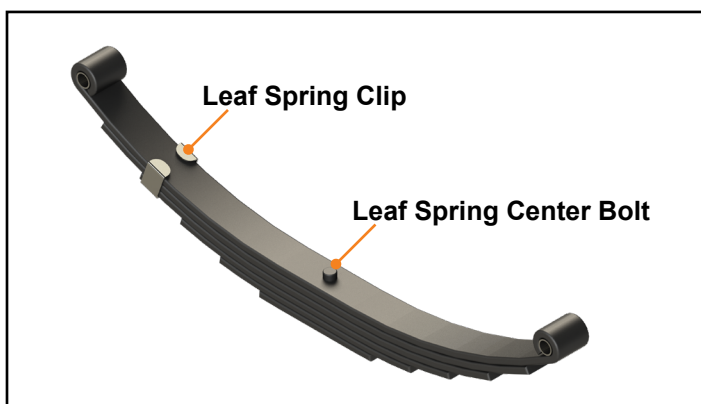

Fig.4
12. Position and orient the new leaf spring (Fig. 4) underneath the trailer to help expedite installation.